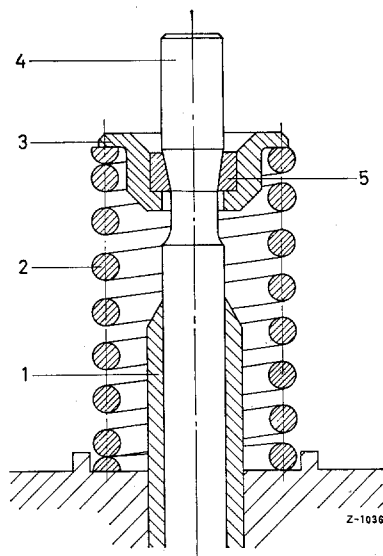

Figure 05-16/1
The inlet and exhaust valves are equipped with a valve stem sealing device in the form of a sleeve, which is soldered to the valve spring retainer (3) and covers the valve guide. In addition, a sealing ring (6) is installed between the valve spring retainer (3) and the valve stem (see Figure 05-16/2). The sleeve soldered to the valve spring retainer (3) prevents spray oil from reaching the valve stem. The sealing ring (6) prevents the oil accumulating in the recess of the valve spring retainer from reaching the combustion chamber by running downwards along the valve stem. The valve stem sealing can be subsequently installed without difficulties in engines of the former production if there are complaints about excessive smoking and high oil consumption.